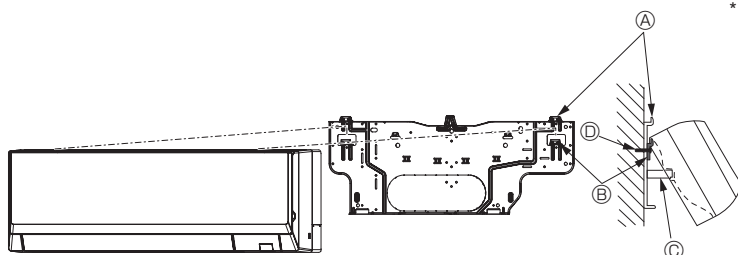

Fig. 3-12
- When the indoor unit cannot be hanged and lifted up with the regular hook (the dimension of 2.1. Ⓢ (the clearance between the ceiling and the unit) is 75 mm, 2-61/64 inch or less), hang the unit on the lower hook for left piping. (Fig. 3-12)
(Fig. 3-12)